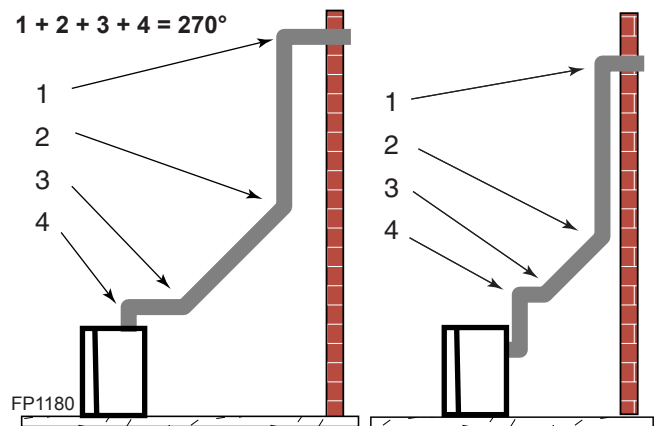

Figure 25 - Maximum Elbow Usage
- The maximum number of 45° elbows permitted per installation is six (6). These elbows can be installed in either the vertical or horizontal run.
- The maximum number of elbow degrees in a system is 270°. *Figure 25*